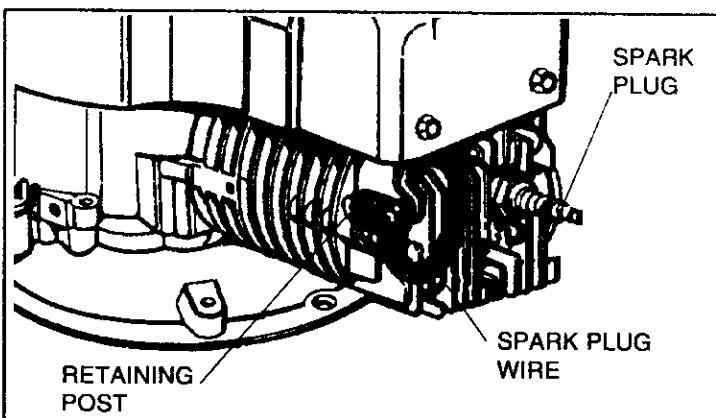

Figure 6
⚠ **DISCONNECT SPARK PLUG WIRE FROM SPARK PLUG AND ATTACH IT TO RETAINING POST (see Figure 6 on Page 3).**
**⚠ A. DISCONNECT SPARK PLUG WIRE FROM SPARK PLUG AND ATTACH IT TO RETAINING POST (see Figure 6).**
**⚠ A. DISCONNECT SPARK PLUG WIRE FROM SPARK PLUG AND ATTACH IT TO RETAINING POST (see Figure 6)**